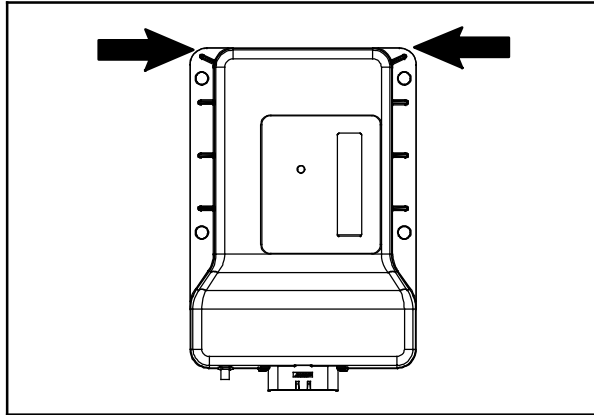

FIG. 16
16. Center the telemetry guard (8) over the telemetry module (1) and align the top edge of the telemetry guard with the top edge of the telemetry module. Drill a 3.1750 mm hole through each existing hole in telemetry guard and the inner surface of the front shroud. **Do Not** drill into the front surface of the front shroud. (Fig. 16)